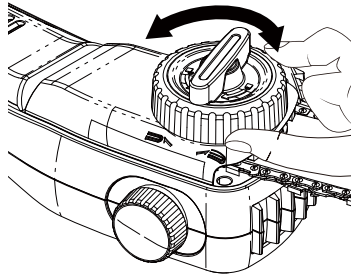

Fig. 11
3. Adjust the chain tension with the chain tension adjusting sleeve according to chain tension adjusting mark on the side cover. Turning the sleeve clockwise increases the chain tension. Turning it counterclockwise decreases the chain tension. (Fig. 11).